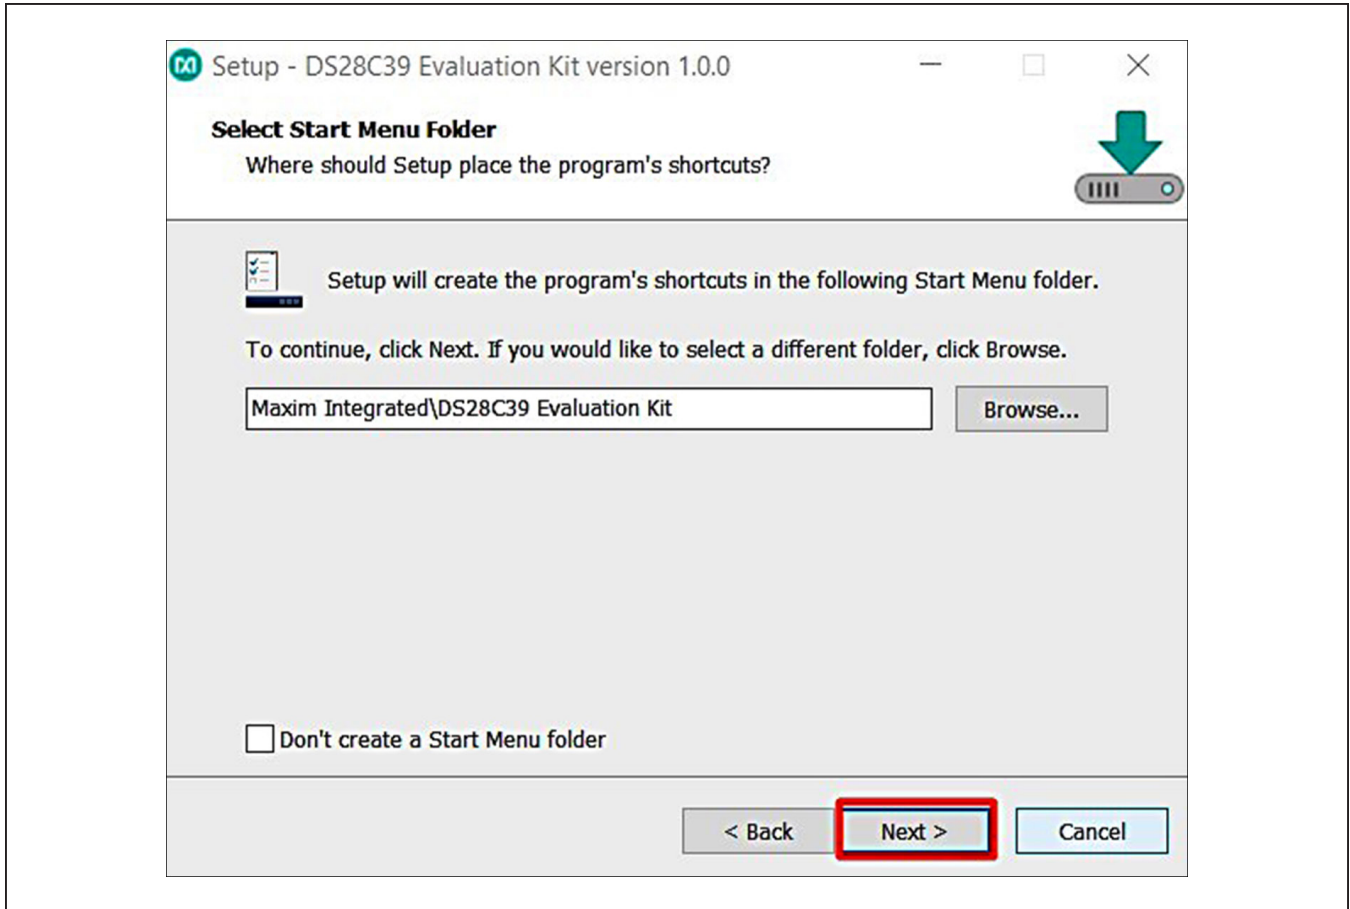

Figure 3. Program Shortcuts Location
4) Click **Next** to install shortcuts to the default folder (Figure 3).